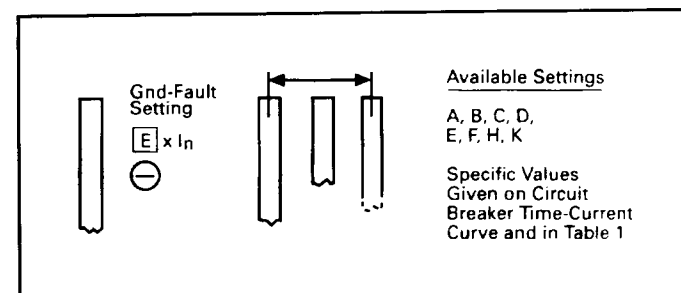

Fig. 8.6 Ground Fault Current Settings
The eight (8) Ground Fault "Pick-up" Current Settings are labeled with the code letters "A" through "K" (except there are no "G" or "I" settings), as illustrated in Fig. 8.6. In general, the specific current settings range from 0.25 to 1.0 times (I_n), the rating plug value, but cannot exceed 1200 A. The specific Ground Current Settings for each letter are listed in Table 4 and on the (G) Time-Current Curve applicable for the circuit breaker (see Section 6).